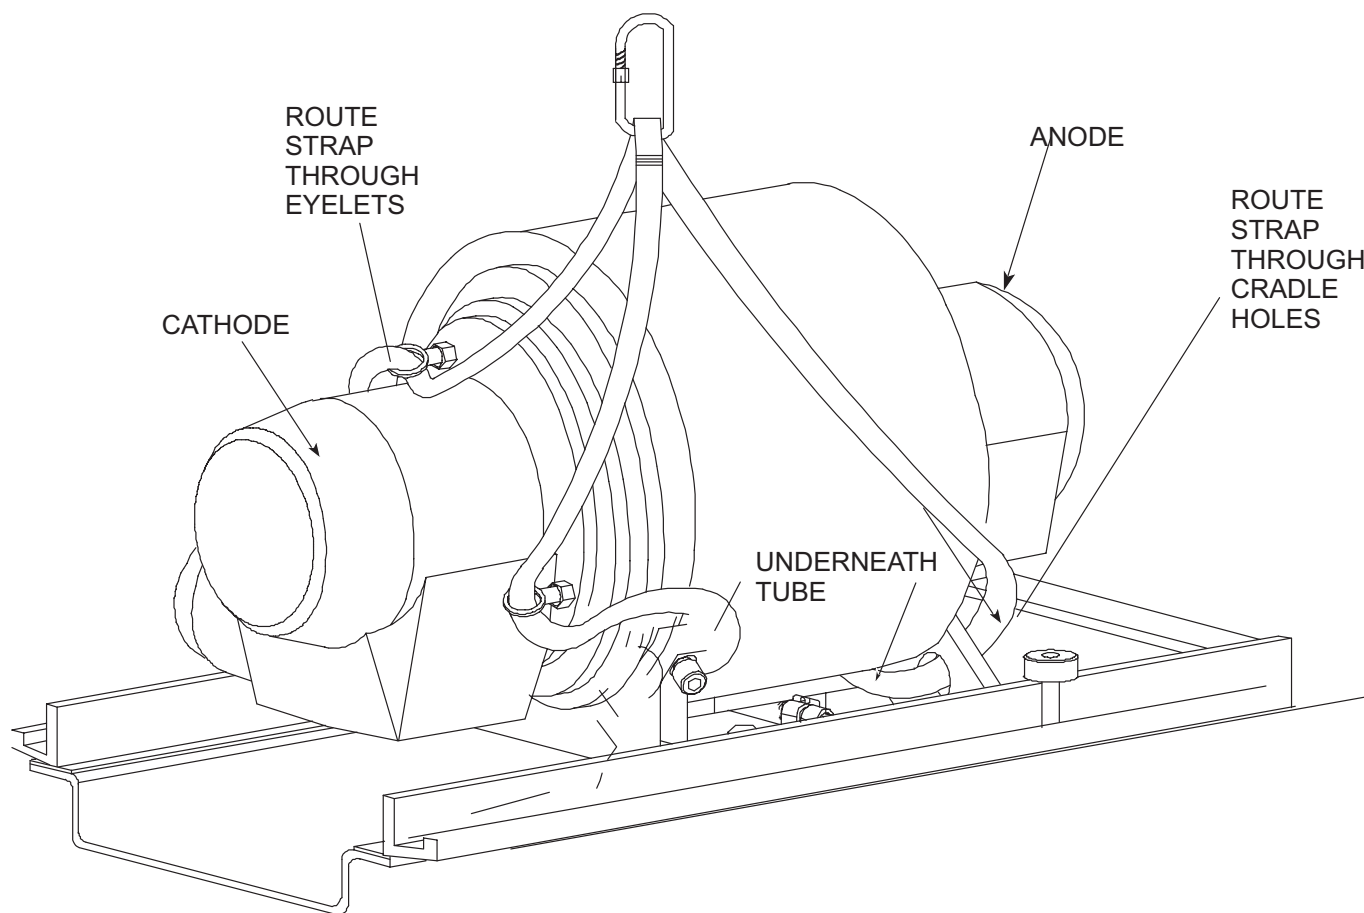

FIGURE 51 LIFTING STRAP ROUTING
- b. Route second strap through one cradle hole, under the x–ray tube and through hole on opposite side. Refer to Figure 51.
FIGURE NOTE: Figure 51 shows the tube on the cradle, but you route the straps in the same manner while the tube is on the Patient Support couch top.